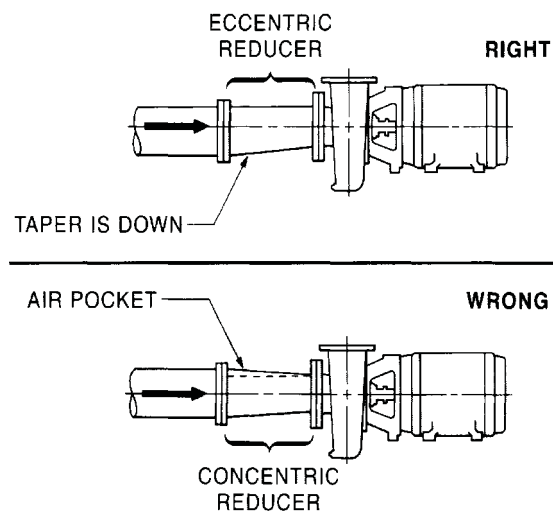

FIGURE 3a
- Use an eccentric reducer, with the eccentric side down (Fig. 3a) when reducing the pipe diameter to the diameter of suction opening.